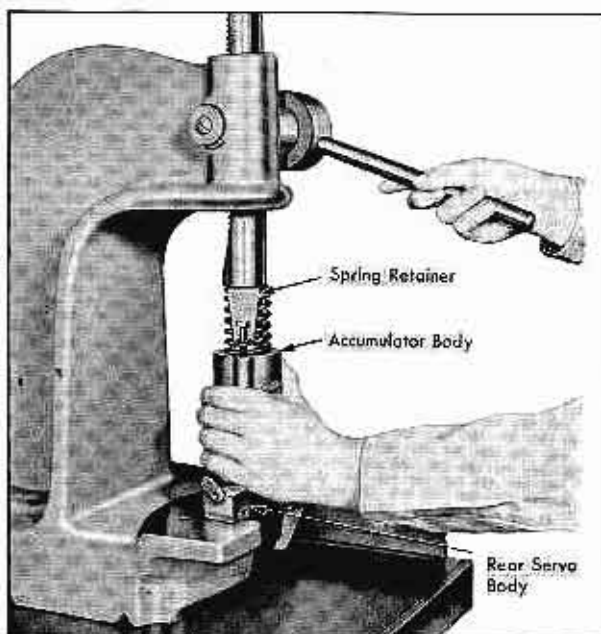

Fig. 14-63 Disassembling Rear Servo
1. Place rear servo in arbor press and bring ram down to rest on spring retainer. Fig. 14-63.